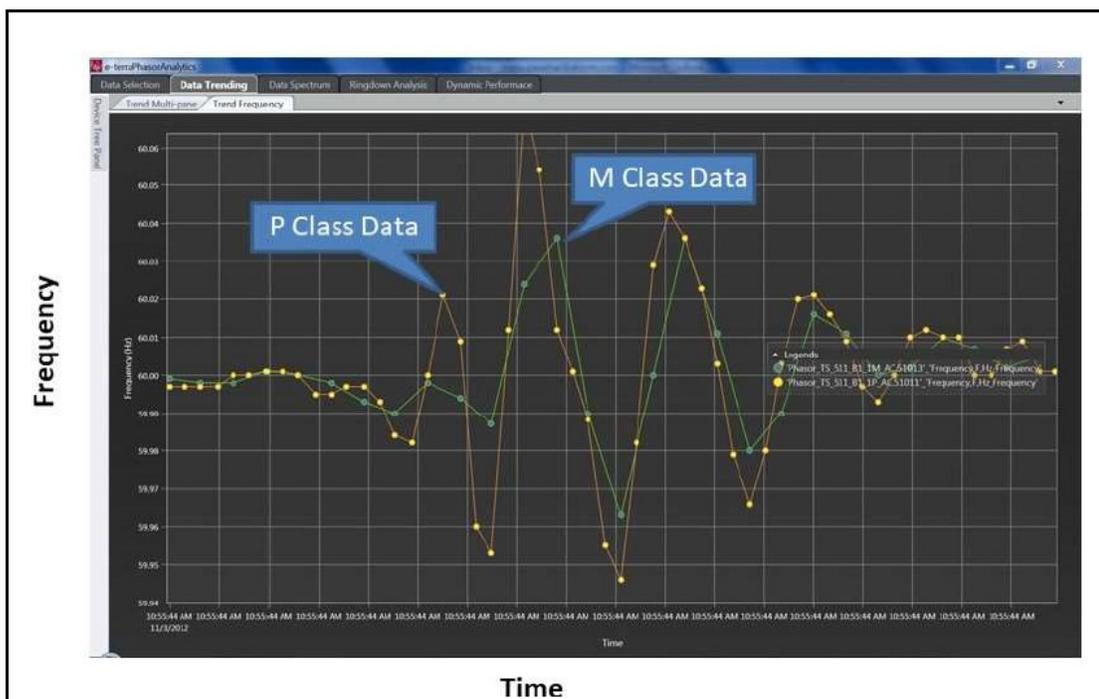

Figure E.2: P and M Class Data Comparison
- The M Class or Measurement Synchrophasors – the M Class synchrophasor integrates sample values over a 7-cycle window. Additionally, the M Class provides a bandpass filter to eliminate frequency components around the nominal frequency. With such a large integration window, an M-Class Synchrophasor will NOT see fault quantities. Moreover, the M-Class measurements will tend to “average” over the fault window. The M Class can be emitted at rates up to 60 measurements per second. Figure E.2 shows a sample comparison of IEEE C 37.118.1 “P” and “M” class data for 120 frames and 60 frames per second, respectively, from field measurements.